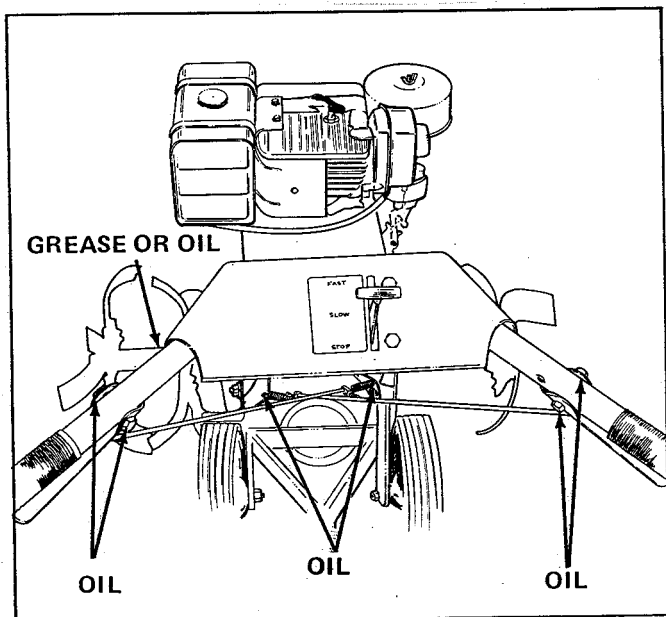

Figure 14.
1. See Figure 14. To reduce wear and assure free movement of controls and tines, apply light motor oil occasionally at points indicated. Be careful not to get oil on drive belts. Use only small quantities of oil. Excess oil collects dirt and causes extra wear.